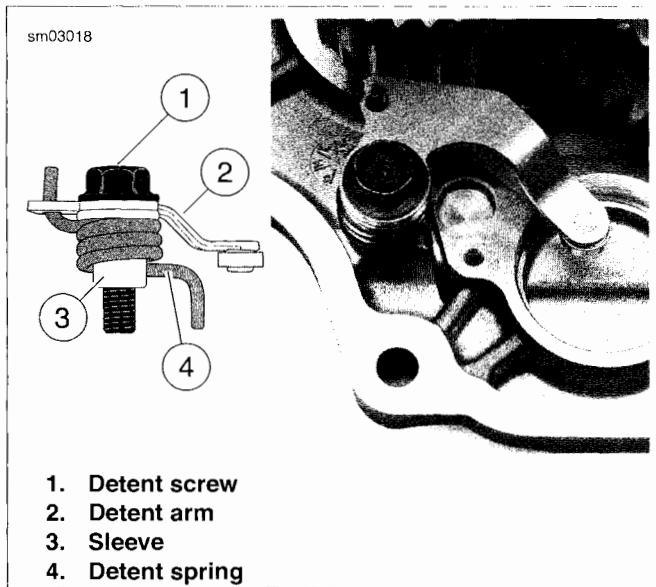

Figure 6-27. Detent Assembly
- See Figure 6-27. Clean detent screw mounting hole in transmission side door.